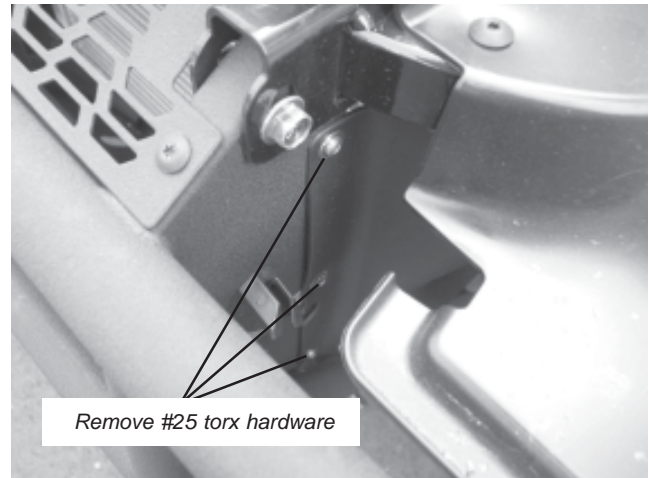

Figure 4
3. Remove three #25 torx screws on each side of bumper as shown in Figure 4. Keep hardware to reinstall later.